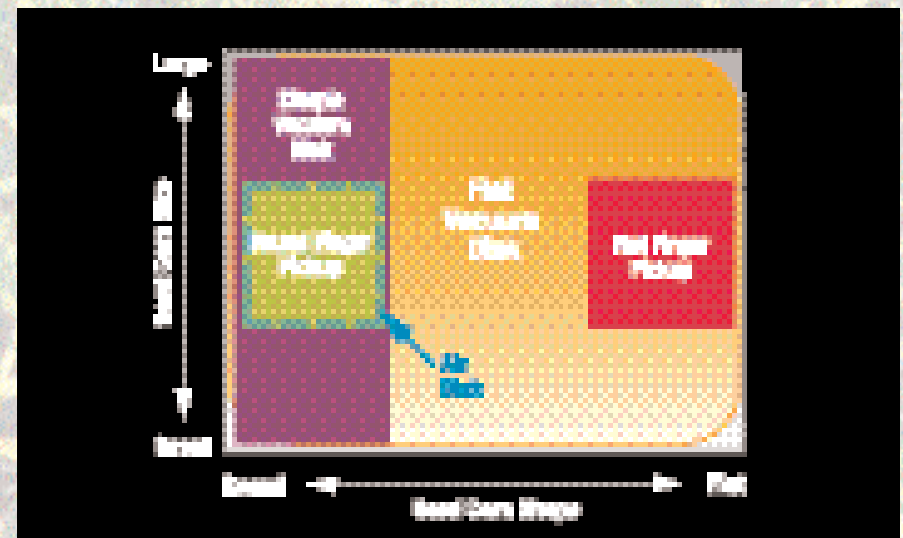

FIGURE 5. Each seed meter system has an optimal plantability seed shape and size range which is directly related to the particular design.
- Available **seed meter systems** can perform well over **different ranges of seed sizes depending on design** (see **Figure 5**).